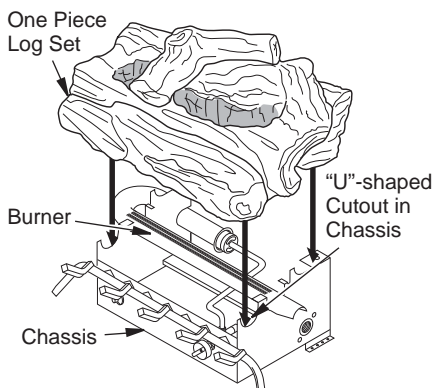
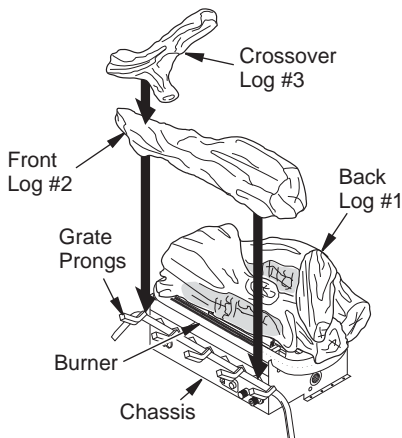
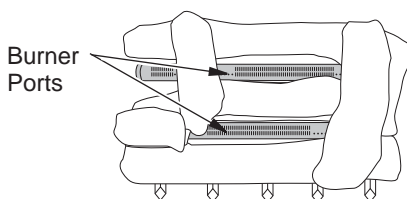

Figure 20 - Installing Vintage Oak One-Piece Log Set
Figure 21 - Installing Golden Oak Log Set
Figure 22 - Installing Log Set, Top View
1. Place one piece log set on grate to fit as illustrated in Figure 20. Make sure bottom of front log is in front of "U"-shaped cutout in center of chassis (see Figure 20). **IMPORTANT:** Make sure log does not cover any burner ports (see Figure 22, page 18).
1. Place back log #1 on grate to fit as illustrated in Figure 21. Make sure middle section at bottom of log set is seated into "U"-shaped cutout in center of chassis (see Figure 21). **IMPORTANT:** Make sure log does not cover any burner ports (see Figure 22, page 18).
2. Place front log #2 against front grate prongs as shown in Figure 21, page 17.
3. Place crossover log #3 on top of front and back logs as shown in Figure 21, page 17.